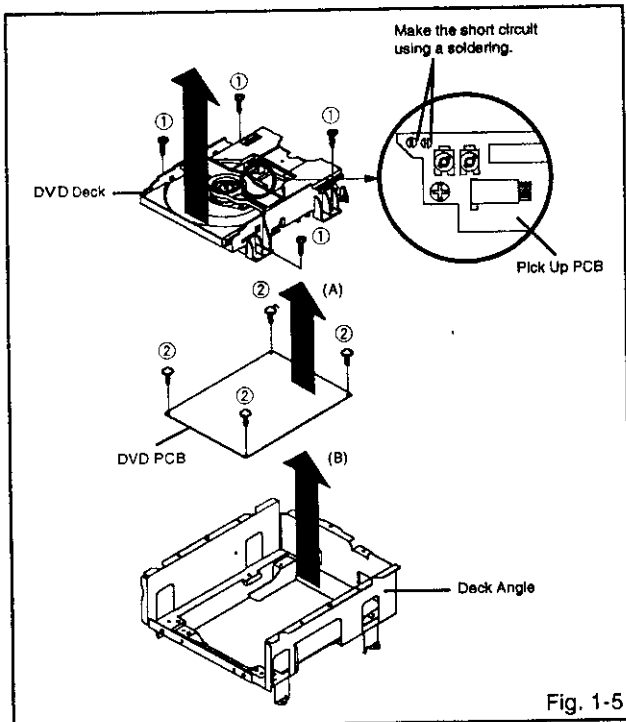

Fig. 1-5
### 1-5: DVD PCB/DVD DECK (Refer to Fig. 1-5)
1. Make the short circuit on the position as shown Fig. 1-5 using a soldering. If you remove the DVD Deck with no soldering, the Laser may be damaged.
3. Remove the 4 screws ①.
4. Remove the DVD Deck in the direction of arrow (A).
5. Remove the 4 screws ②.
6. Remove the DVD PCB in the direction of arrow (B).